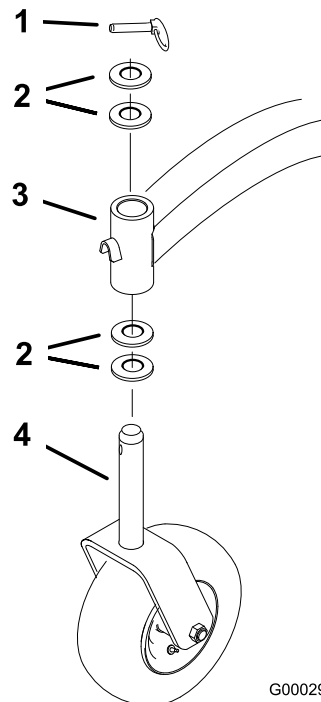

Figure 42
2. Remove the locking pin and spacer(s) from the top of the caster wheel fork (Figure 42).
6. Inspect the caster wheel fork for wear and replace if necessary (Figure 42).
7. Slide the caster wheel fork through the bushings in the mounting tube. Replace the spacer(s) onto the fork and secure with the retaining ring (Figure 42).